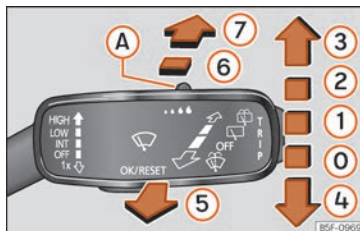

Fig. 49 Operating the windscreen wiper and rear wiper.
INT	Windscreen wipers interval wipe. Using the control »» Fig. 49 (A) adjust the interval (vehicles without rain sensor), or the sensitivity of the rain sensor.